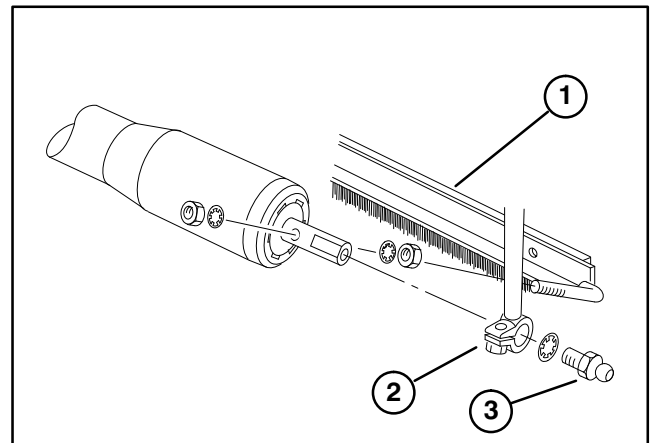

Figure 2
3. Loosely mount brush assembly to the roller with (4) lockwashers and nuts (Fig. 2).
4. Slide roller adjusting screws onto roller shaft and thread ball studs and lockwashers into roller (Fig. 2).